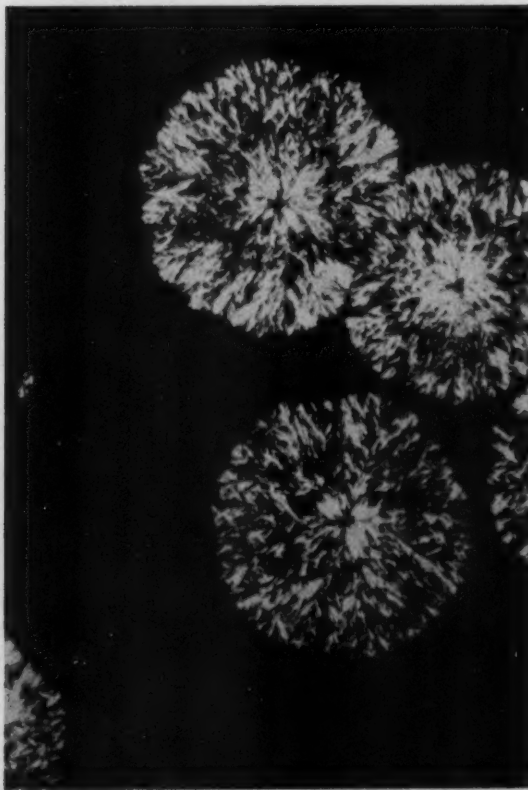

Fig. 4. Growth of stable form of cacao butter at 20° C (68° F).
Microscopical observation in polarized light, as first done by Reinders (33) shows easily that cacao butter is able to exist in at least two modifications, the stable one growing slowly at the expense of the unstable form. (40). This is represented by Fig. 1-5. A drop of molten cacao butter was placed on a slide and covered with a cover-glass. The slide was rapidly chilled at 0°C (32°F) and kept at that temperature for half an hour. It was then brought to room temperature (about 20°C or 68°F) and continuously observed for several weeks. At zero time (Fig. 1) a bright microcrystalline mass is observed. After about two hours this has become much duller but very bright crystal nuclei appear which grow rapidly and after 5 hours small spherulites of about 50 microns in diameter can be distinguished (Fig. 2). For the first two days growth of the bright crystals continues at the same rate—Fig. 3 shows the appearance after 30 hours. Thereafter the growth is much slower but continuous. After 5 days (Fig. 4) the bright crystals occupy